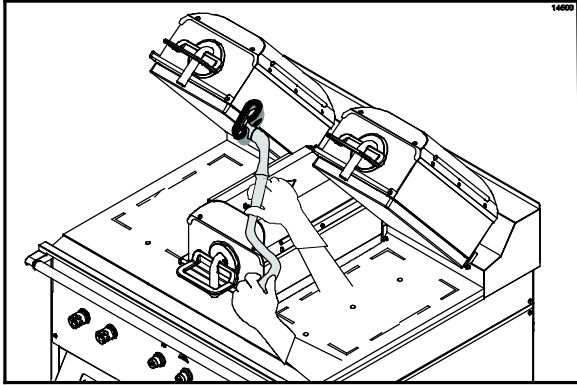

Figure 61
30. Scrub the inner edges of the right and left platens. (See Figure 61.)